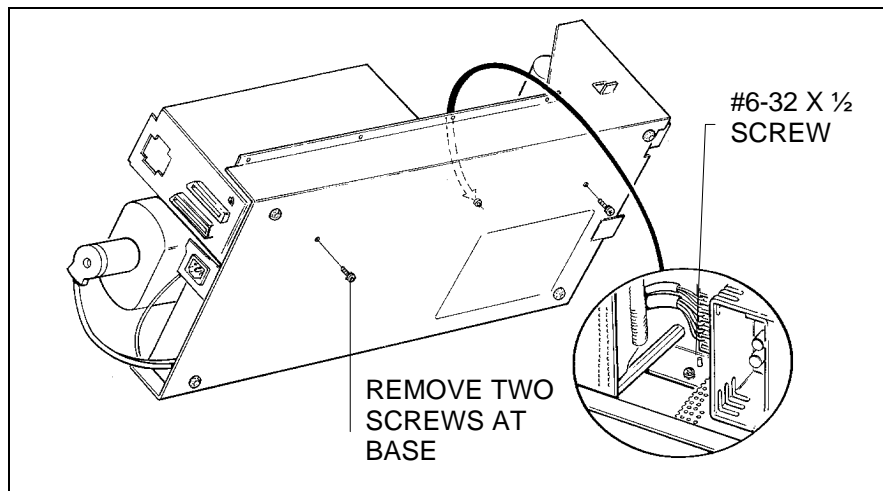

Figure 6-18. Removing the electronics drawer hardware
5. Turn the unit on its side and remove two screws at the base securing the drawer to the pan assembly (Figure 6-18). Turn the unit right side up again.